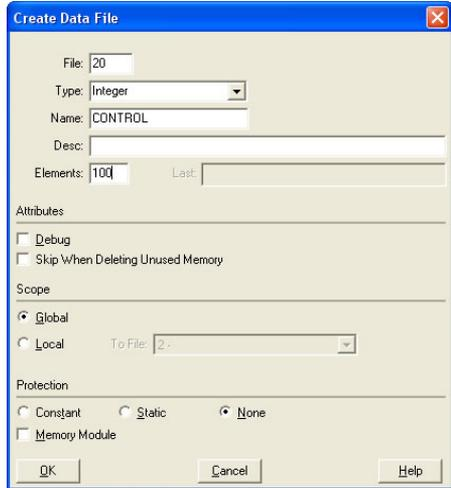

Figure 114: Creating a Control File
- a) Right click Data Files and select New... The "Create Data File" dialog box appears (refer to Figure 114).